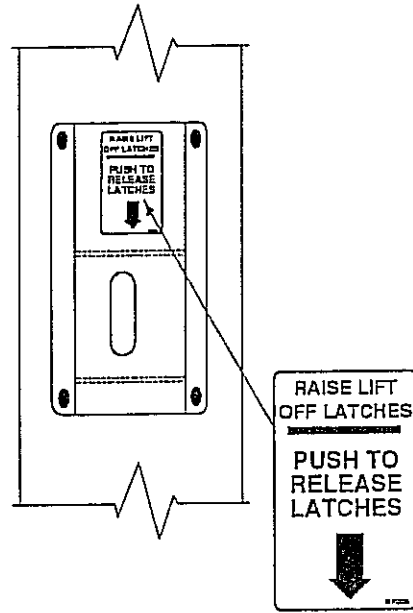

Fig. 23
21. If latch release decal is not already installed, then install on right column (or power unit side) cover, Fig. 23.